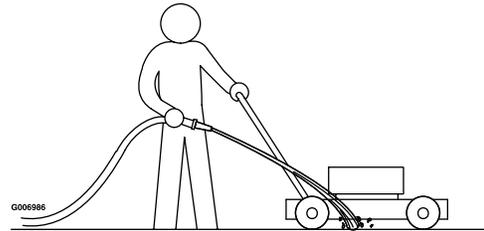

Figure 39
3. Hold the running garden hose at handle level and direct the water to flow on the ground just in front of the right rear tire (Figure 39).